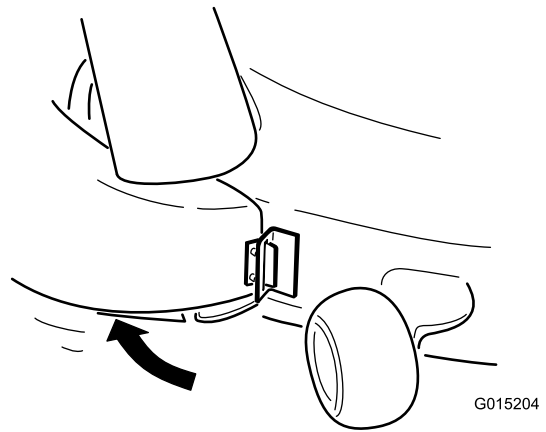

Figure 25
2. Pivot the chute back and toward the deck so chute is flush with the mower deck (Figure 25).